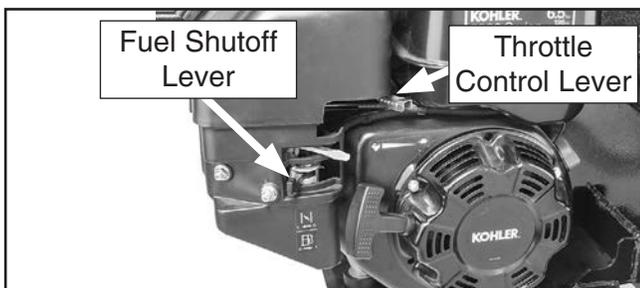

Figure 30. Engine controls in OFF position.
- To turn engine **OFF**, move throttle control lever to SLOW (turtle), move ON/OFF switch to OFF (O), and move fuel shutoff switch to OFF (O), as shown in **Figures 30–31**.